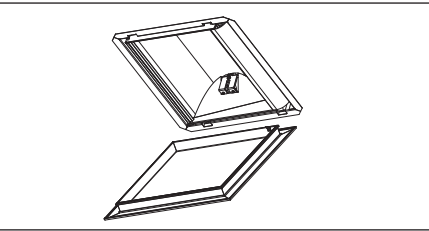

Fig. 13
4. Clip fascia into the unit. Fig 13.
8. Clip fascia into the unit. Fig 13.